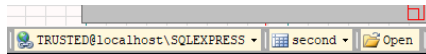

Figure 5.15 The Open button at the bottom right of CT Viewer 2.
- Open the database containing the desired trace by clicking the *Open* button in the bottom right of CT Viewer 2 (Figure 5.15) or by selecting *File* → *Open Current Database* from the menu bar. See *Working With SQL* for instructions on setting up a connection to an SQL database.